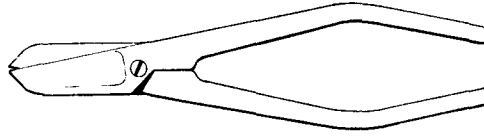

Fig. 22 Shears (watchmaker)
23. **Shears.** Shears are made from high carbon steel with hardened blades, and are used for cutting sheet materials quickly. For heavy work various types of tinman's shears are available with straight or curved blades. For most electrical work watchmaker's shears with blades $1\frac{1}{2}$ in. long are used (Fig. 22). For heavy work involving long straight edges the job is best done in the workshop using a guillotine.